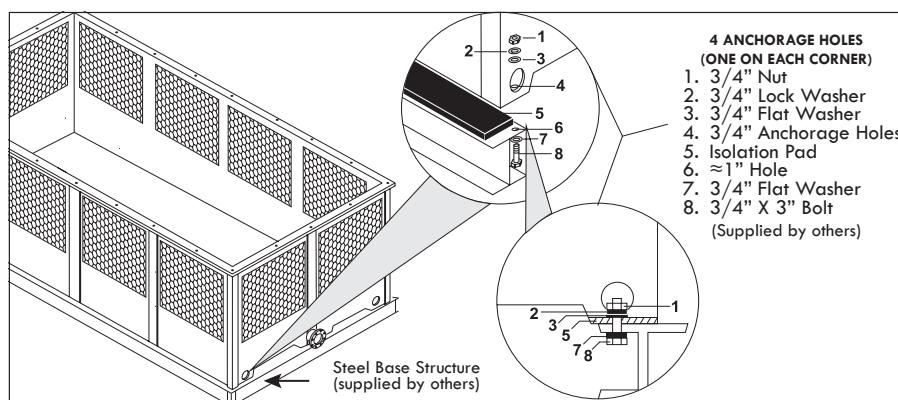

Figure A-15: Typical anchorage for a Double Fan Tower
- F.** Place the lower section of the Tower (basin) on top of the isolation pad and the base structure; Secure it with the stainless steel nut and bolt sets (supplied by others) as shown on Figure A-15.